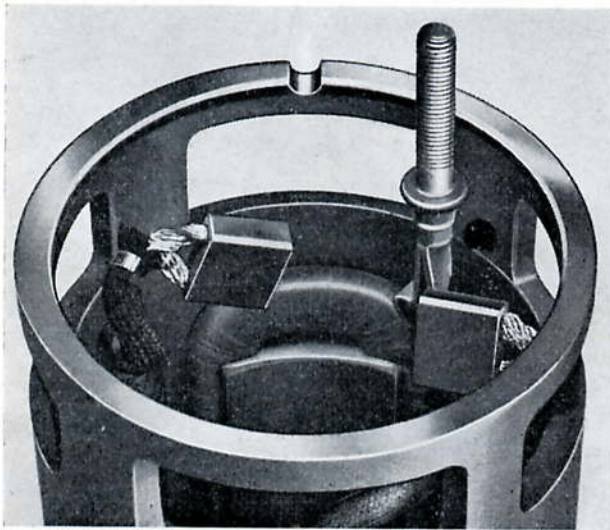

Fig. Q.8. When the field coils are installed the terminal post should be located as shown
2. Position the field coils in the yoke with the field terminal post to the right of the dowel recess (Fig. Q.8).